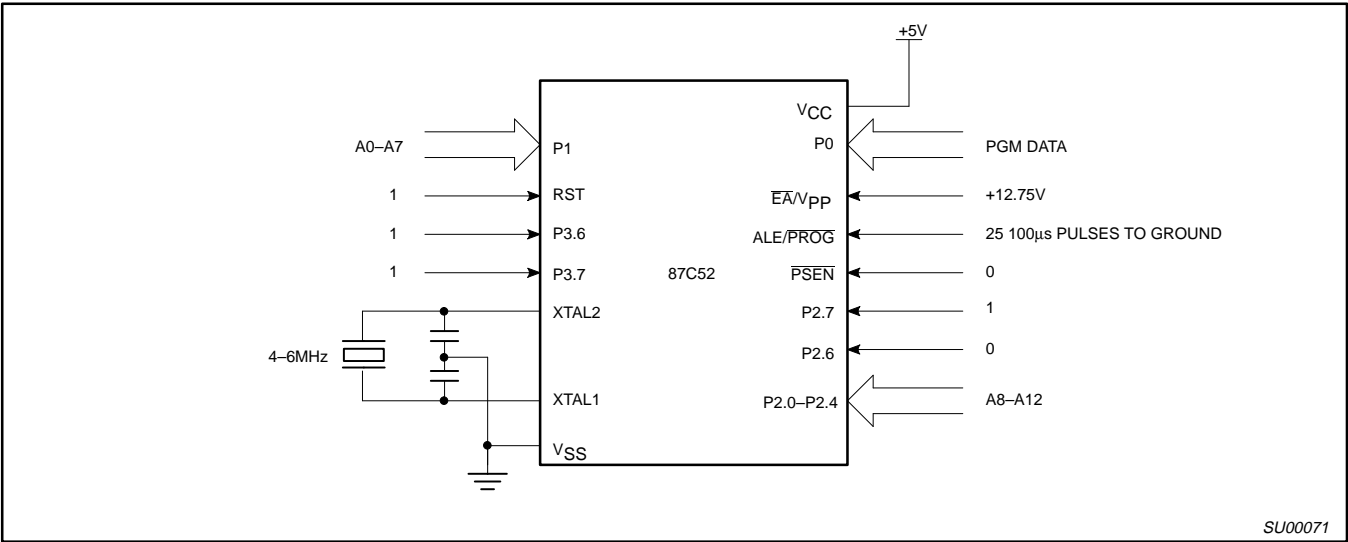
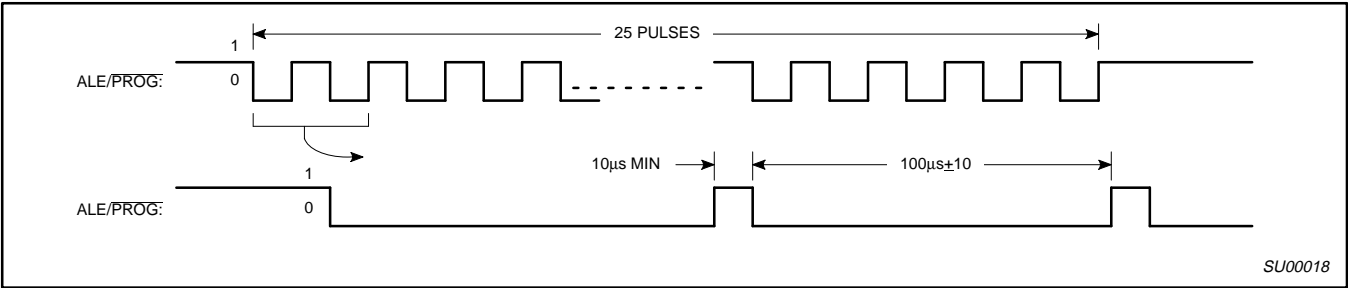
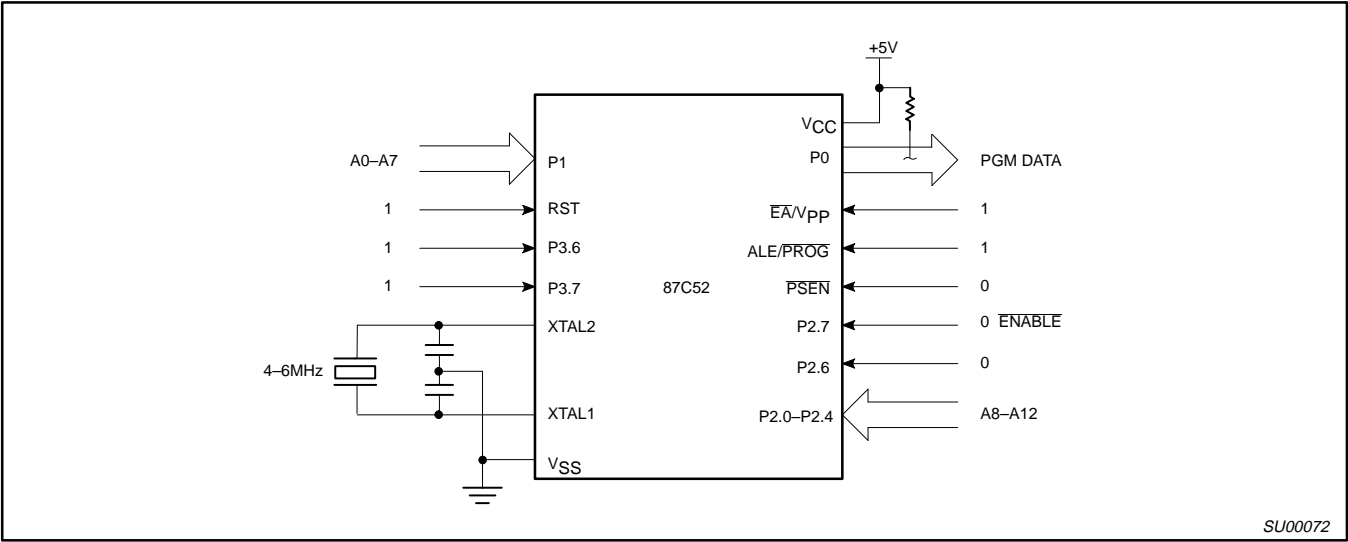

Figure 17. Programming Configuration
Figure 18. PROG Waveform
Figure 19. Program Verification
Table 6 shows the logic levels for reading the signature byte, and for programming the program memory, the encryption table, and the security bits. The circuit configuration and waveforms for quick-pulse programming are shown in Figures 17 and 18. Figure 19 shows the circuit configuration for normal program memory verification.
The setup for microcontroller quick-pulse programming is shown in Figure 17. Note that the 87C52 is running with a 4 to 6MHz oscillator. The reason the oscillator needs to be running is that the device is executing internal address and program data transfers.
The address of the EPROM location to be programmed is applied to ports 1 and 2, as shown in Figure 17. The code byte to be programmed into that location is applied to port 0. RST, \overline{PSEN} and pins of ports 2 and 3 specified in Table 6 are held at the 'Program Code Data' levels indicated in Table 6. The ALE/PROG is pulsed low 25 times as shown in Figure 18.
If security bit 2 has not been programmed, the on-chip program memory can be read out for program verification. The address of the program memory locations to be read is applied to ports 1 and 2 as shown in Figure 19. The other pins are held at the 'Verify Code Data' levels indicated in Table 6. The contents of the address location will be emitted on port 0. External pull-ups are required on port 0 for this operation.
- * FOR PROGRAMMING VERIFICATION SEE FIGURE 17.
FOR VERIFICATION CONDITIONS SEE FIGURE 19.